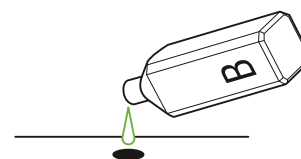

Fig. B12.3
3. Pour the mixed liquids into the hole in the casing joint sleeve (Fig. B12.3).